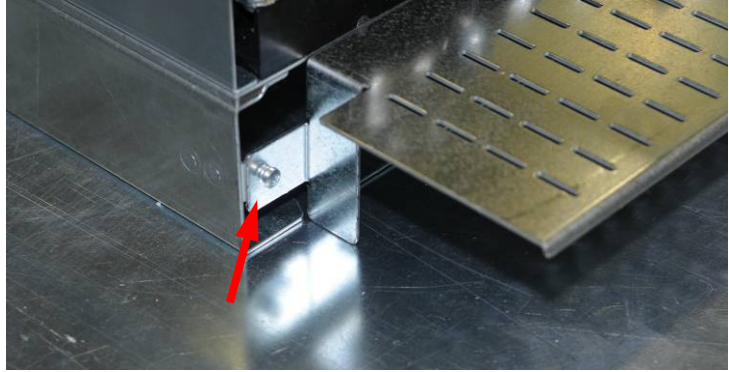

Figure 4. Cable-clamp bracket mounted on mounting tab, left side of D3/D4 frame.
2. Mount cable-clamp bracket on the mounting tabs and secure using the screws supplied with the kit. Do this on the left and right side. Reference Figures 4, 5 and 6.